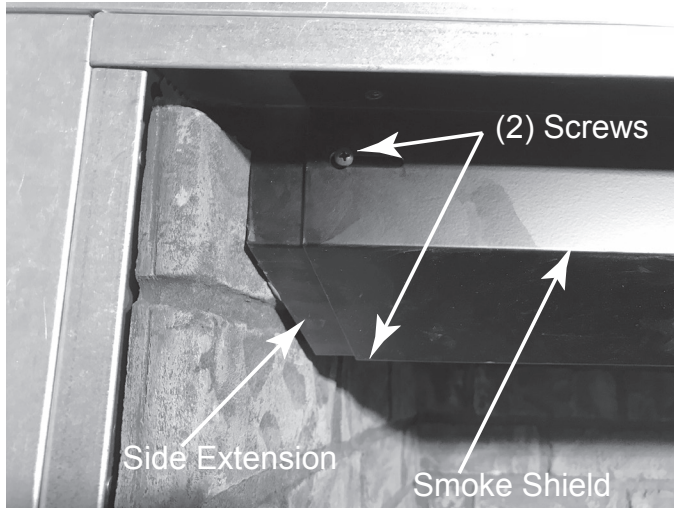

Figure 11.10
- Reinstalling the smoke shield: loosen screws securing the smoke shield side extensions, (2) screws per side, and adjust extensions inward on the smoke shield. Reinstall smoke shield to appliance, (5) screws. Adjust smoke shield side extensions towards the outside of the appliance until they are tight against the left and right side refractories. Tighten (2) screws per side to lock side extensions in place. See Figure 11.10.